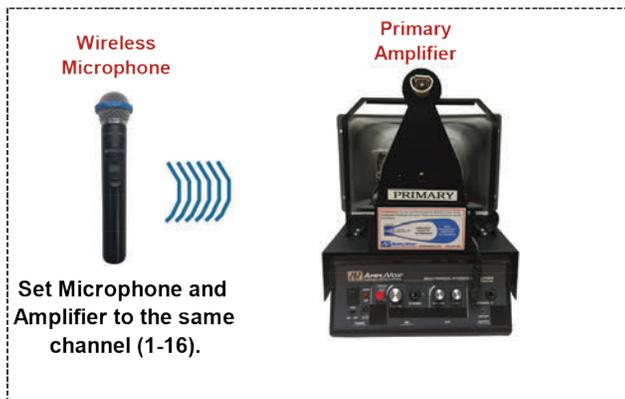

Figure 1
2. Wireless Option (*See Figure 1*)